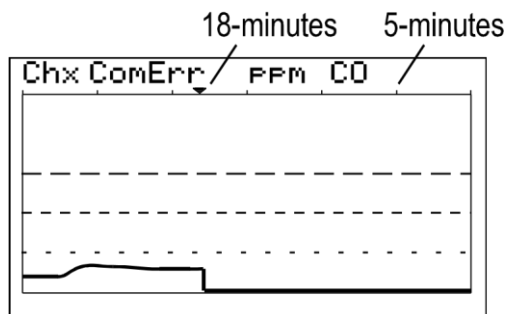

Figure 5.4
- **Communications Error** – Each channel's 30-minute trend screens (Figure 5.4) are very useful for diagnosing wireless problems since it indicates amount of time since the most recent transmission was received. The down arrow on top of the trend screen resets to far right each time a transmission is received by that channel. When not in alarm, ST-48/RFs transmit each 5-minutes so the arrow should never progress past the 5-minute interval. The ST-90 activates the channel's FAULT alarm and indicates ComErr if no transmission has been received in 18 consecutive minutes.